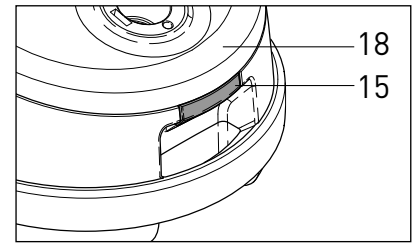
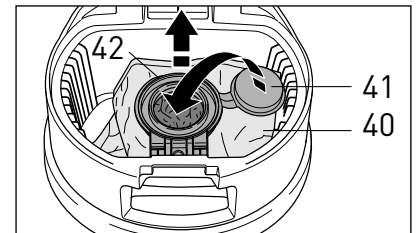

Figure 20
Figure 21
Changing the Filter Bag - Figures 20, 21, 22, 23 & 24
To change the filter bag (40), switch off the power and unplug the vacuum. Lift the cover release catch (#15, figure 20) and raise the filter bag cover (18). Seal the filter bag with the sealing cap (41). Lift the filter bag out of the holder by tilting the green collar (42) up and pulling it out of the holder as shown in figure 21.